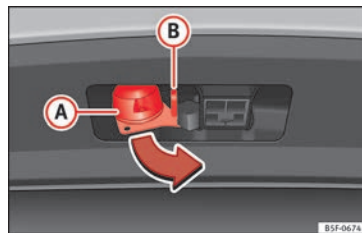

Fig. 220 Turn the 13-pin connector.
- Grip the 13-pin connector at area **A** and remove it in the direction of the arrow **>>> Fig. 220**.
- Grip the 13-pin connector at area **A** and insert it in the opposite direction to the arrow **>>> Fig. 220**.
The safety lug **(B) »» Fig. 220** is used to hook up the trailer's retainer cable.